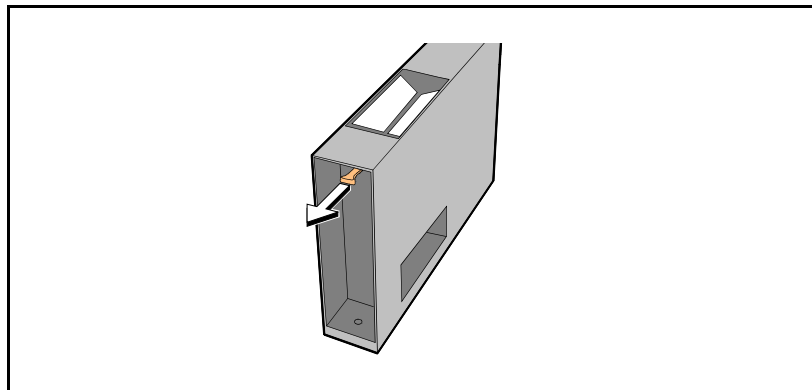

Figure 18-8. Removing Linescan camera glass.
- Remove the Linescan camera glass by withdrawing it at the front of the camera box, see Figure 18-8.